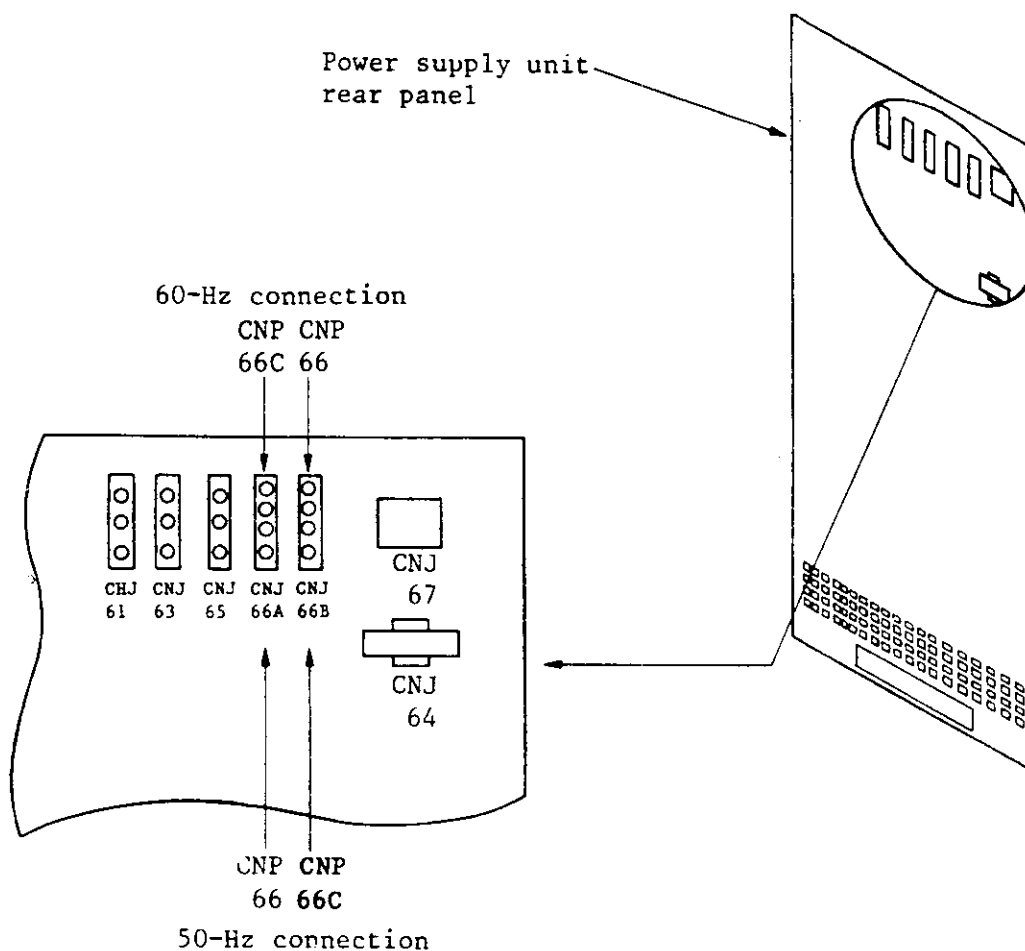

Figure K.21 Input power frequency setting
- (1) Confirm whether facility input frequency is 50 or 60 Hz.
- (2) Access the power supply unit rear panel from the front of the MTU.
- (3) For 60-Hz input, verify that CNP66 is connected to CNJ66B and that CNP66C is connected to CNJ66A. These connections are shown in Figure K.21.
For 50-Hz input, verify that CNP66 is connected to CNJ66A and that CNP66C is connected to CNJ66B. These connections are also shown in Figure K.21.